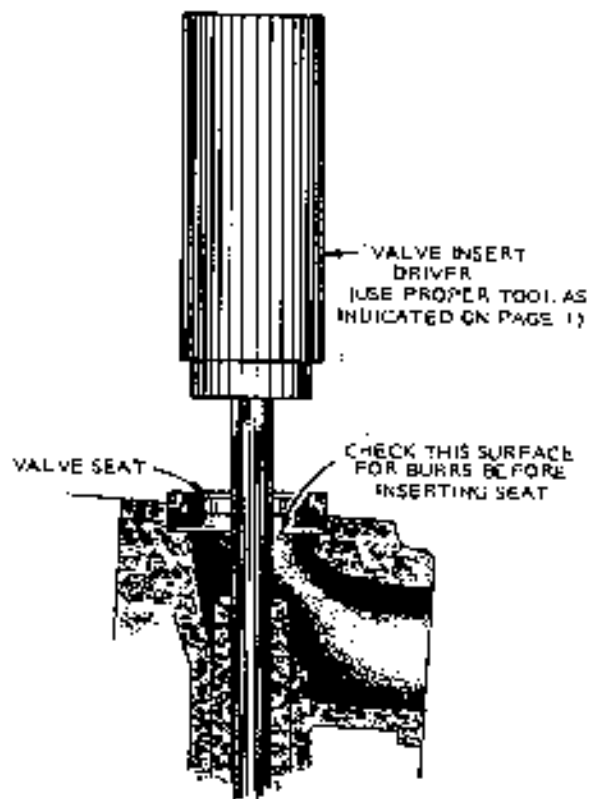

FIGURE 15-14. INSERTING NEW VALVE SEAT
3. Make certain that the valve seat insert rests solidly on the bottom of the recess all the way around its circumference, Figure 15-14. Refer to the Tools section for proper valve seat driver for each series of engines.